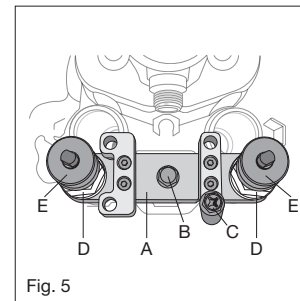

Fig. 5
2. Refer to Figure 5: Fit the Laser 7084 tool (**A**) over the pair of injectors. Secure with the screws **B** and **C** (initially just screw in a few threads).